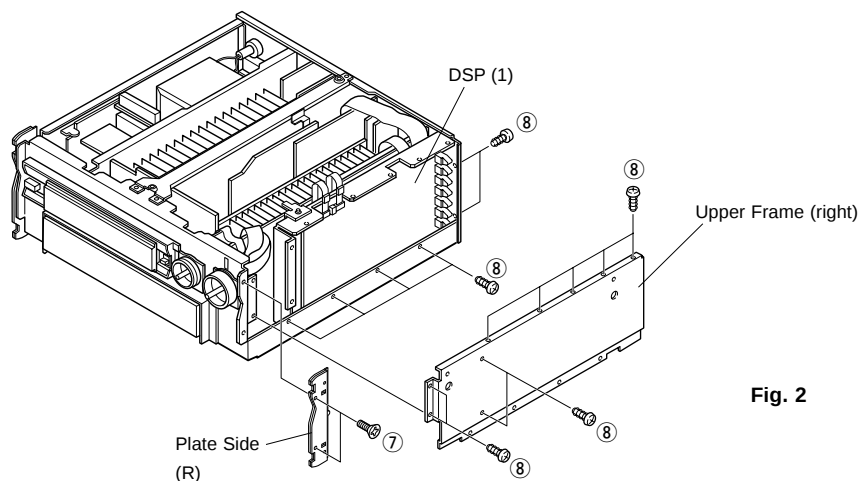

Fig. 2
4. Removal of DSP P.C.B. (1)
- a. Remove 2 screws (⑦) and remove the right Plate Side in Fig. 2.
- b. Remove 15 screws (⑧) and remove the right Upper Frame in Fig. 2.